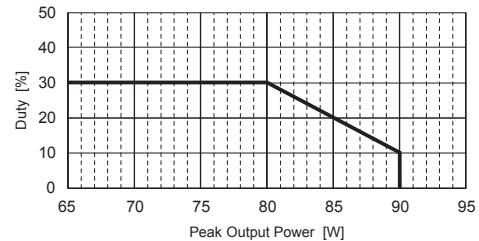

Fig.8.3 Duty of peak output power (TEPS65F)
- Duty = $\frac{t_1}{t_1 + t_2} \times 100[\%]$ Refer to Fig 8.3 derating